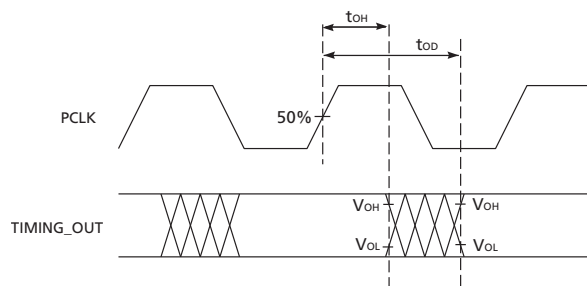

Figure 2-1: PCLK to TIMING\_OUT Signal Output Timing
6. With PCLK phasing delay set to nominal (zero offset), each increment of the clock phasing adjustment decreases output hold time and delay time by a nominal 700ps. The times  $t_{OD}$  and  $t_{OH}$  are defined in Figure 2-1.